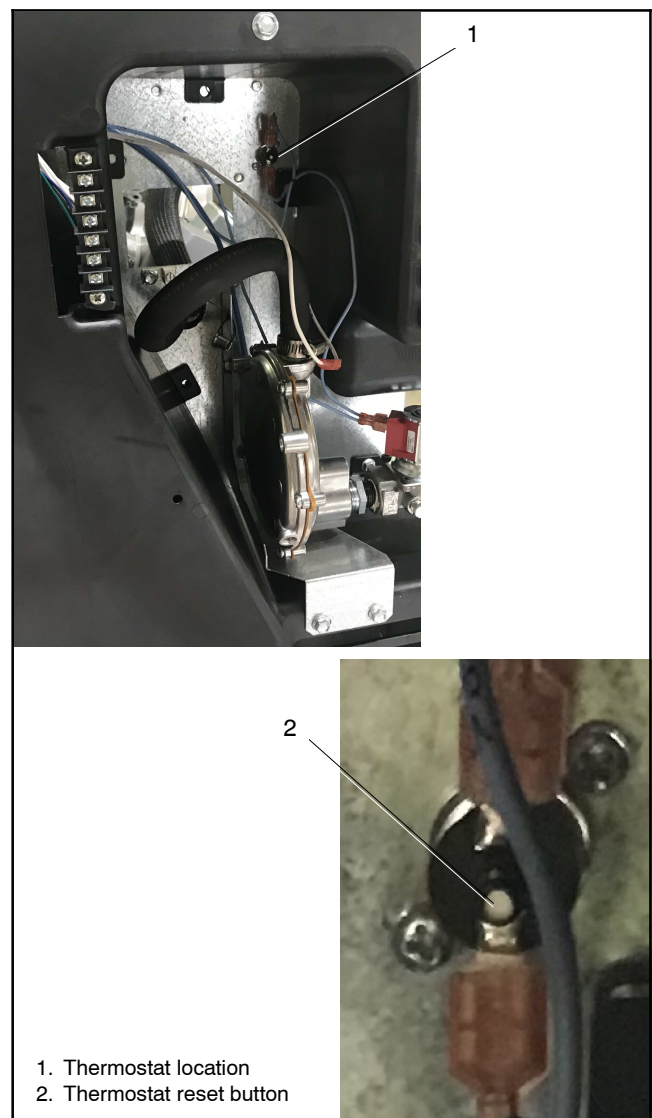

Figure 5-2 Thermostat
The generator sets include a resettable thermostat. See Figure 5-2 for the thermostat location in the air intake area, near the fuel system. The thermostat detects excess heat inside the enclosure. If the thermostat trips, the generator will shut down and the controller will display a fault (underspeed, underfrequency, or undervoltage). Check for blocked air inlets and exhaust outlets. Then follow these steps to reset the thermostat.
3. Remove the air intake panel. See Figure 5-2.